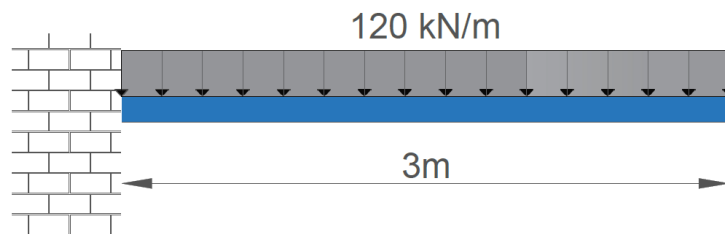

Figure 3(c) / Rajah 3(c)
- CLO2 (c) A cantilever beam 3 m long is subjected to a uniformly distributed load of 200 kN/m as illustrated in Figure 3(c). Given the Young's modulus of 483 GN/m2 and the second moment of area of  $6.21 \times 10^{-5} \text{ m}^4$ . Determine: